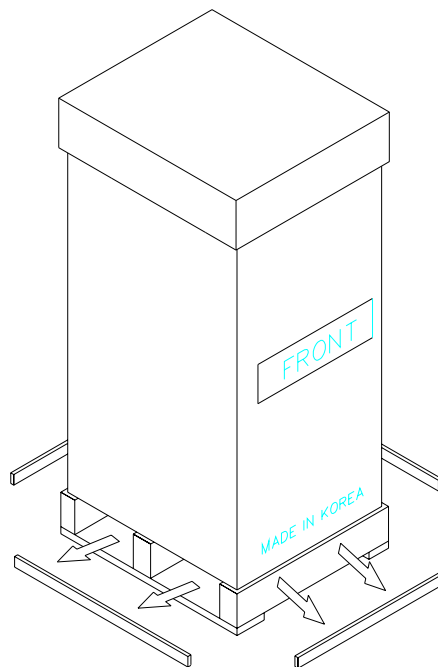

Fig. 4.1.2
- 3) Use an appropriate tool to remove the nails from the pallette. (refer to Fig. 4.1.2)